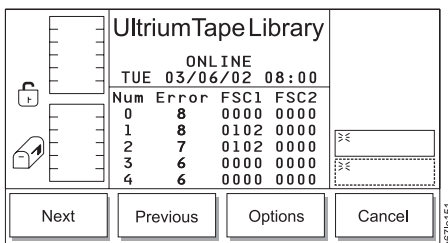

Figure 4-56. Drive Log Dialog
1. Specify the drive that you want by performing steps 1 through 5 in "Viewing the Drive's Error Log" on page 4-30. The Drive Log Dialog displays (see Figure 4-56).